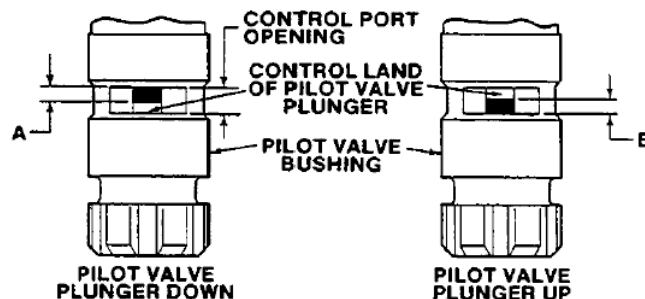
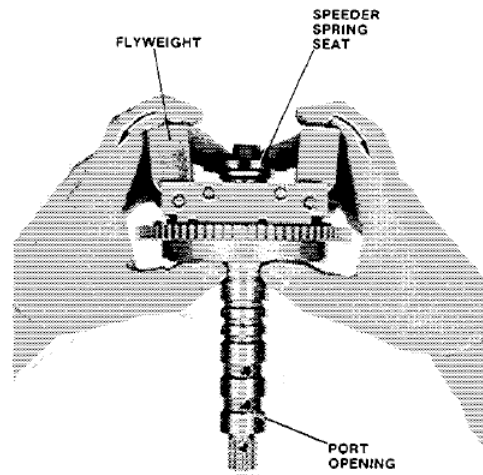

Figure 5-30. PVP Adjustment
Figure 5-31. PVP Adjustment Procedure
16. Adjust PVP nut until PVP control land is centered in the control port of the PVP bushing. See Figure 5-30 and adjust the PVP nut until dimensions 'A' and 'B' are equal. Make the adjustment (Figure 5-31) while keeping a slight pressure on the flyweights in both directions. Pin nut (with cotter pin) in position once adjustment is correct.